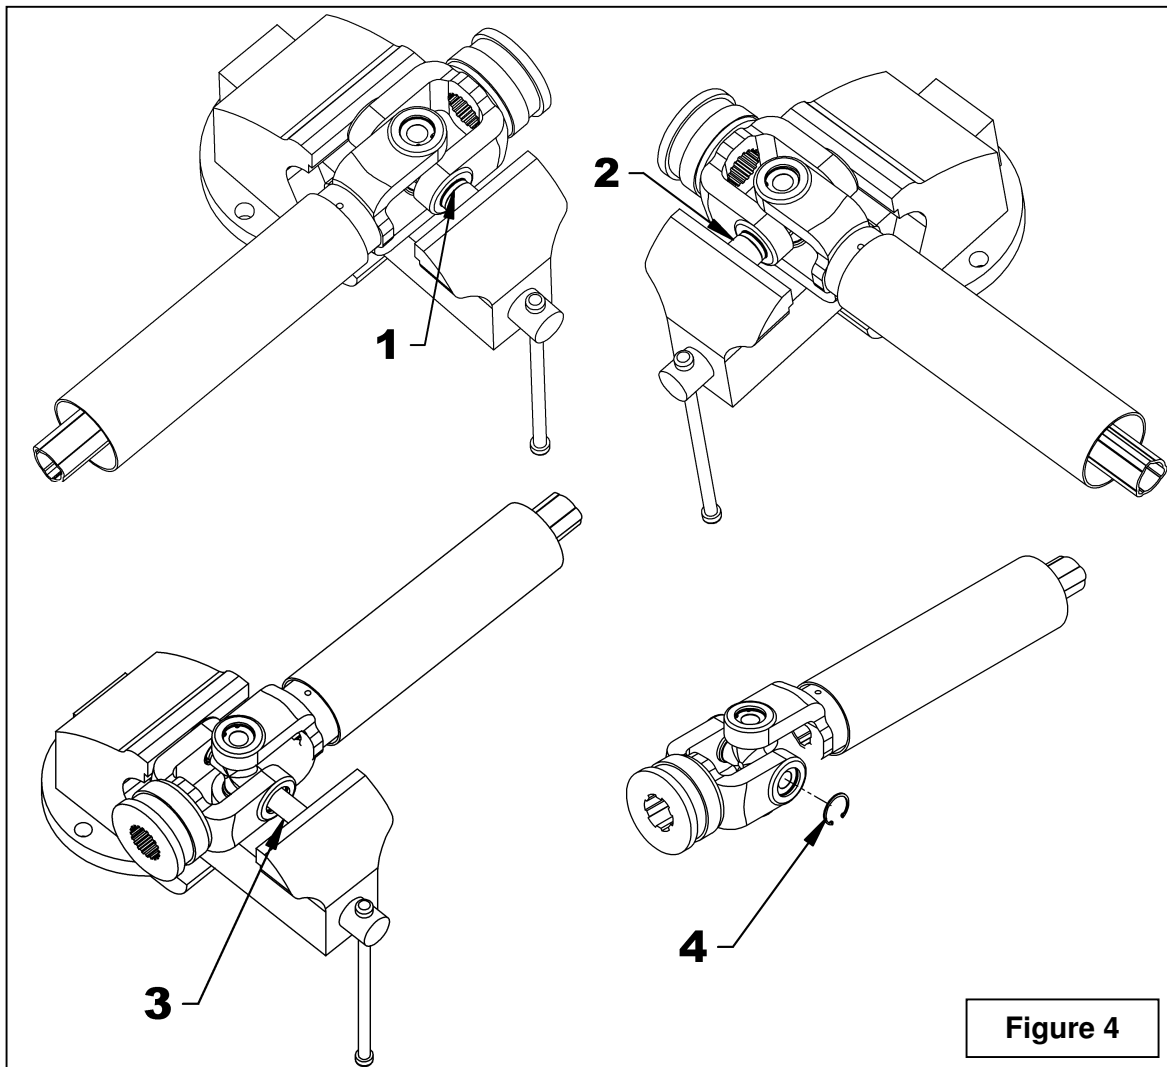

Figure 4
4. **Figure 4:** Position the new yoke on the driveline. Reinstall the first bearing (item 1) by tightening the vise making sure the cross is partially inserted in the bearing (item 1) while tightening. Reinstall the second bearing (item 2) by tightening the vise making sure the cross is partially inserted in the bearings. Using the shaft previously used (item 3), push in one of the bearings in its original position. Reinstall its circlip (item 4). Repeat the same procedure for the other bearing.